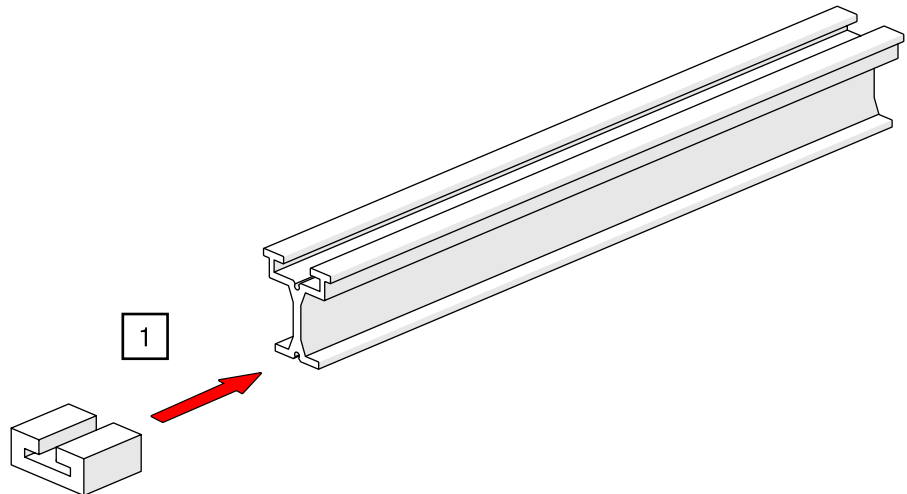

Fig. 50: End stop HD – Push the end stop onto the track
1. Slide the end stop HD onto one end of the track (see Fig. 50).